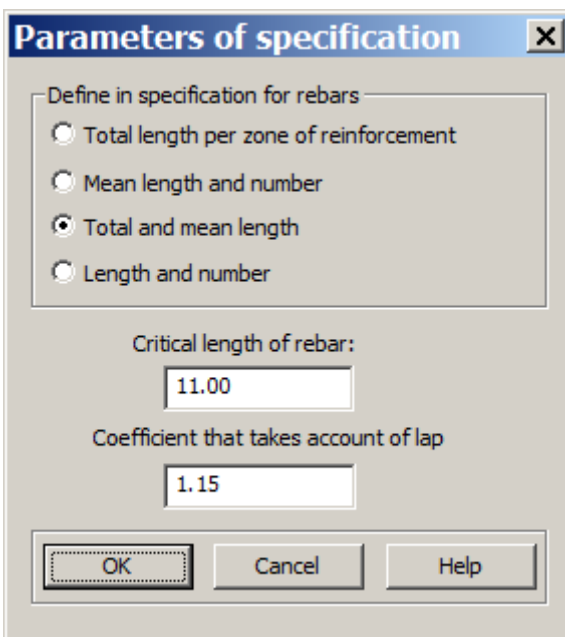

Figure 2.8.3 **Parameters of specification** dialog box
- ⇒ In the **Parameters of specification** dialog box (see Fig.2.8.3), do the following: